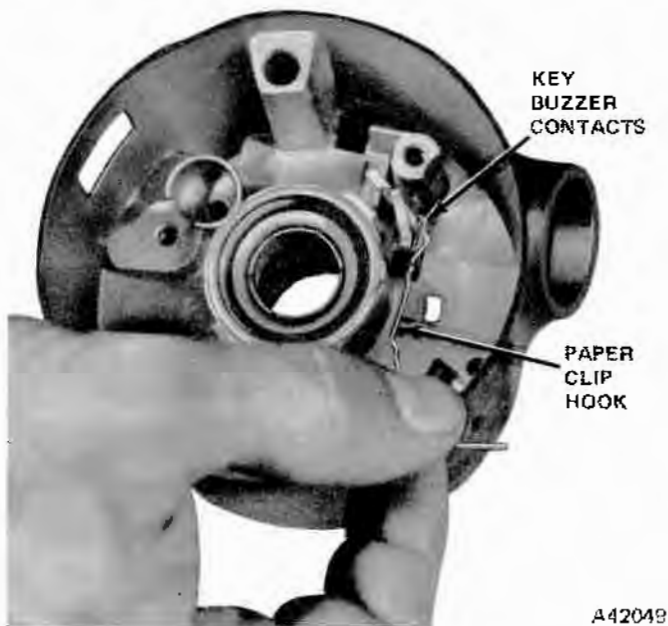

Fig. 11-9 Removal of Key Warning Buzzer Contacts
(17) With key in on position, remove key warning buzzer contacts using a wire hook (a paper clip with a right angle bend) or needlenose pliers (fig. 11-9).
(1) On column shift steering columns, rotate shift bowl counterclockwise to stop, and install upper housing on column. On 01-40-70 Series with automatic transmission column shift, guide shift quadrant light wire and remote lock rod into position between shift bowl and mast jacket.
(2) Install key warning buzzer switch with brass tabs pointing upwards toward shift indicator (fig. 11-9).
(3) Install directional signal switch assembly. Guide wire harness into position and carefully align switch assembly.
(4) Unrattle connector, assemble wires into protector and protector-to-column jacket, and install switch retaining screws.